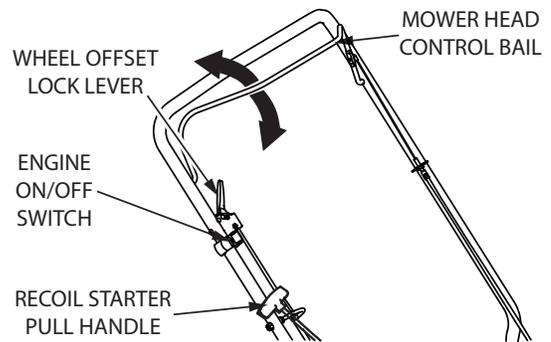

FIGURE 5: Using The Mower Head Drive Lever.
1. To engage the mower head, hold the control bail against the handle. The faster the engine runs, the faster the mower head will rotate. **SEE FIGURE 5**